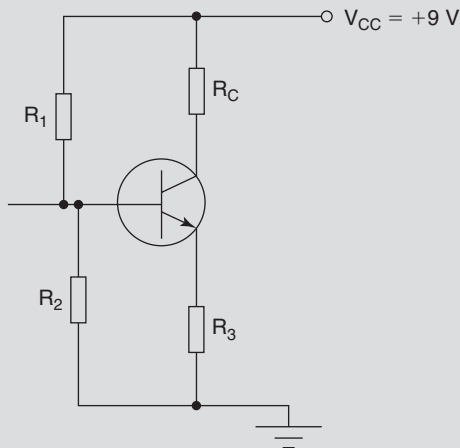

Fig. 28
- 2 The transistor in Fig. 28 has a current gain of 40 and the required bias conditions are $V_{BE} = 0.7\text{V}$ and $I_C = 2\text{mA}$. Calculate suitable values for the four resistors.